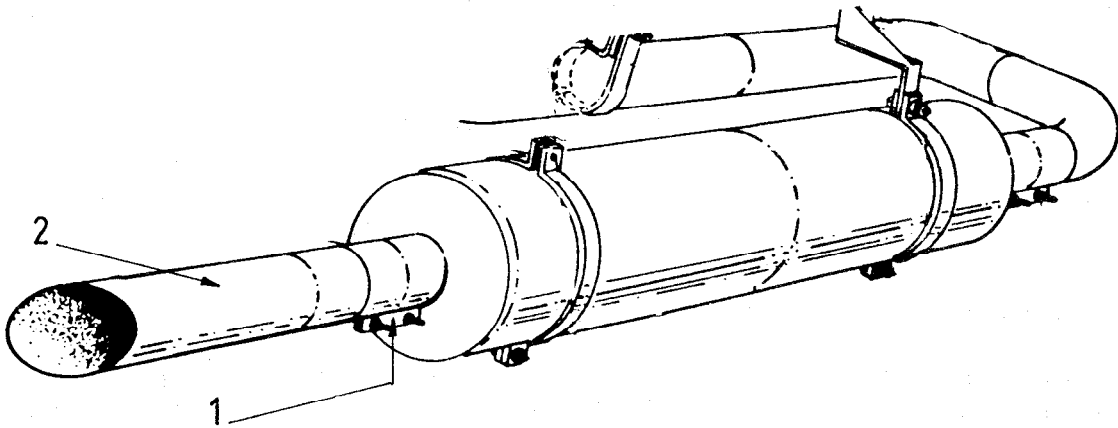
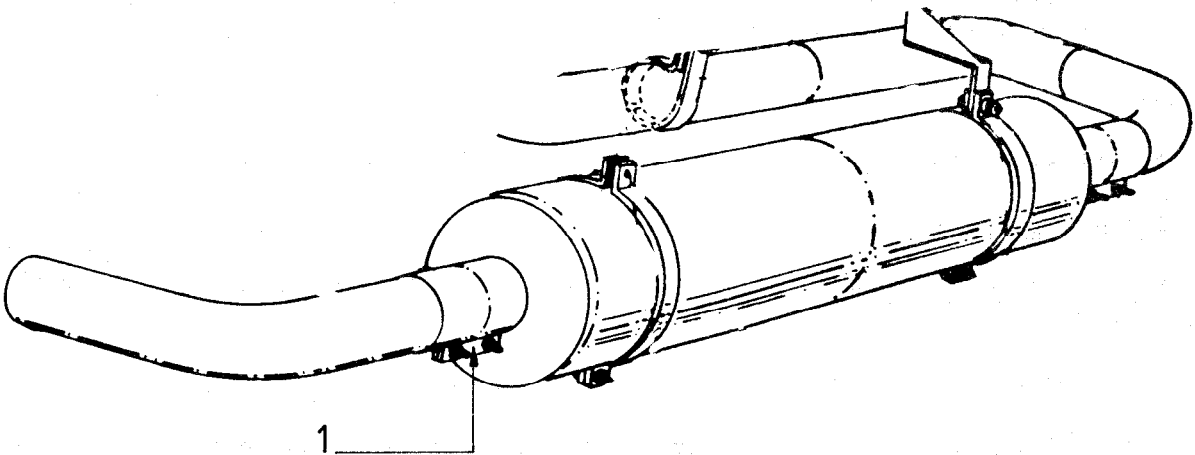

FIG 1 - STRAIGHT EXHAUST TAIL PIPE
FIG 2 - CURVED EXHAUST TAIL PIPE
- a. Loosen the clamp, item 1 in Fig 1 and remove the exhaust tail pipe, item 2.
- b. Using the original clamp, item 1 in Figs 1 and 2, fit the new exhaust tail pipe, item 1 from Table 1 as shown in Fig 2. Ensure the tail pipe is facing rearward and slightly downward and tighten the clamp.